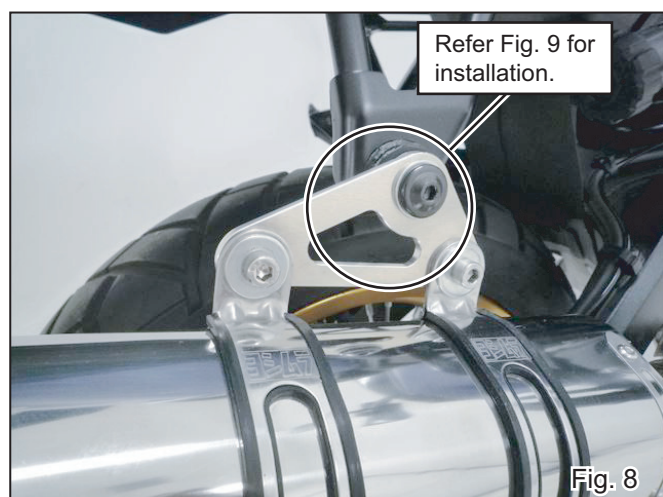

Fig. 8
- 8) Fix Silencer Bracket at stock silencer bracket with stock bolt, Washer M8x26, stock washer and nut. Tighten the bolt by hand only at this stage (See Fig. 8 & 9).